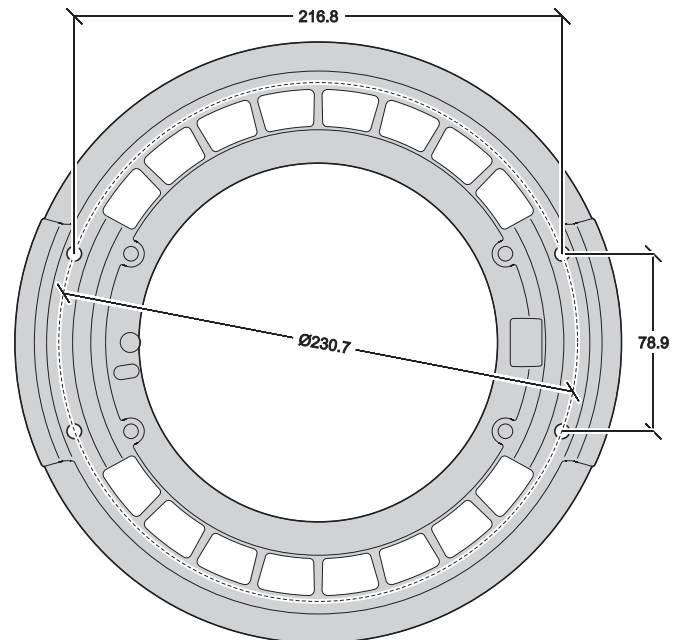

Figure 14: Dimensions for followspot handles
Warning! Screws used to fasten any item to the rear of the head may only be fastened into the holes (arrowed in Figure 14) provided in the rear head cover. Do not attempt to fasten any item to the rear of the head by any other method. Screws must not protrude more than 15 mm (0.6 inches) into the rear head cover, or there is a danger that they may damage electrical insulation inside the head and create a risk of serious or lethal electric shock for the operator.
- Four holes (arrowed in Figure 14) are provided in the fixture's rear head cover for fastening followspot handle mounting brackets. Use regular M6 machine screws for attachment but ensure that screws are the correct length: the portion of the screw that goes into the rear head cover must have a length of between 12 mm (0.47 in.) and 15 mm (0.6 in.).
Besides being constructed so that they will not foul the yoke at any point in the tilt range, mounting brackets must match the dimensions shown in Figure 14.
Dimensions in Figure 14 are shown in millimeters: